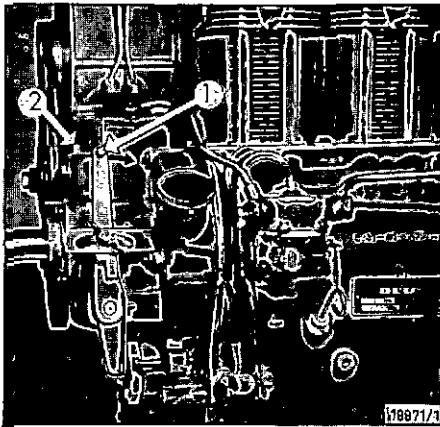

Fig. 13
2. Set speed control lever 1 (Fig. 13) by hand or foot to about $\frac{1}{2}$ speed in the direction of the arrow and press starting fuel allowance button 2 once.